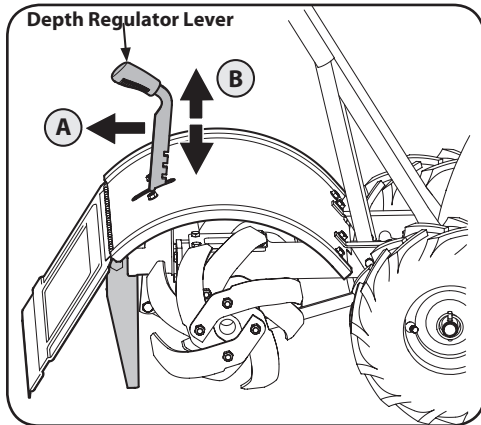

Figure 4-2
3. Move the depth regulator lever all the way down to the “travel” position, so that the tines clear the ground. To change the depth setting, pull back on the depth regulator lever (A) and lift up or down (B), then release the lever (C) to secure in the desired position. See Figure 4-2.